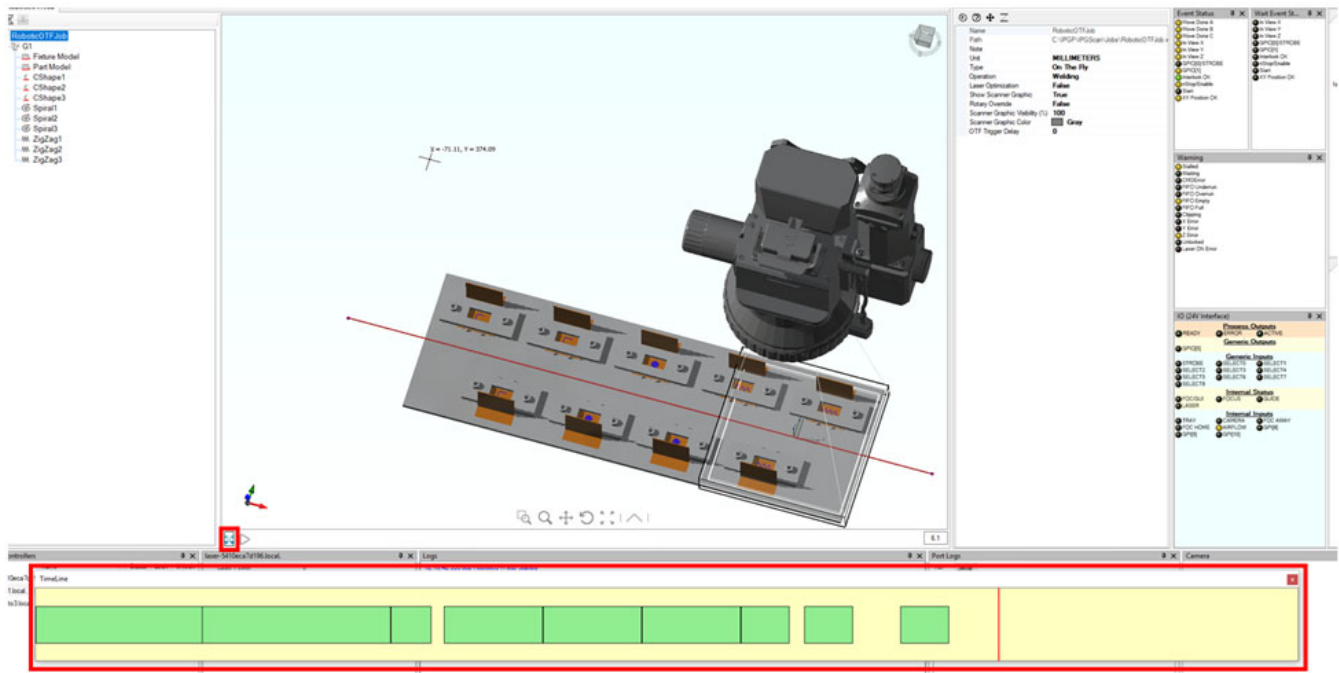

Figure 261: Basic Timeline Expansion
- Expansion Button - Allows users to break-out and expand the Basic Timeline. See Figure 261 (below).